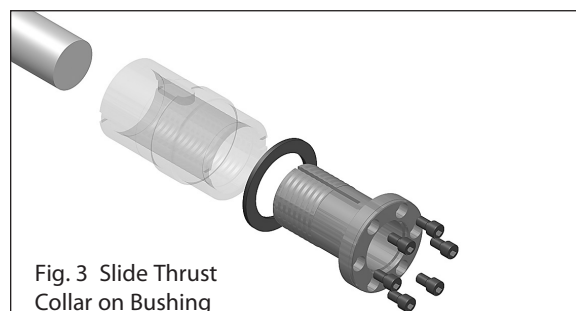

Fig. 3 Slide Thrust Collar on Bushing
**Step 3** – Slide the thrust collar onto the Taper-Grip® bushing (see Fig. 3).